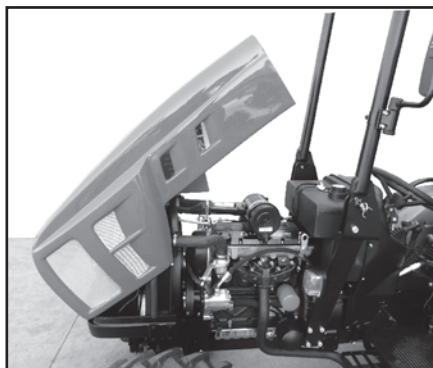

Fig. 6.4
The engine hood may be tipped forwards easily by removing the fuel cap (1) and lifting the hood from the driver side (Fig. 6.4).